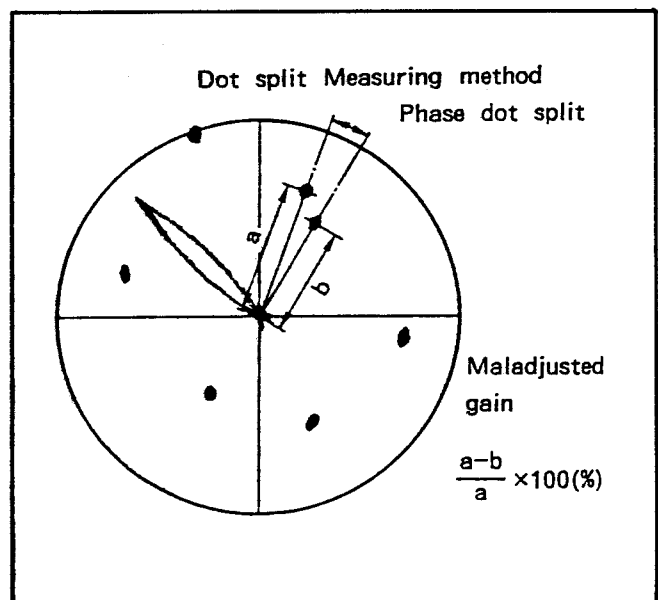

Fig. II-86
- * Note: Measure dot split according to Fig. II-86.